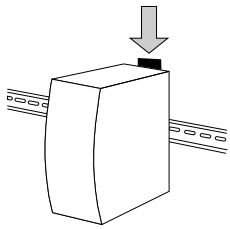

Fig. 6: Button to unlock the RPS60
- To unlock, press the button on the top the RPS60 (see Fig. 6).